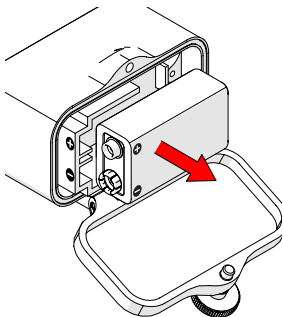

Fig. 34 - Remove the 9V battery
2. Remove the 9V battery from the battery compartment and dispose of it according to local regulations (Fig. 34).